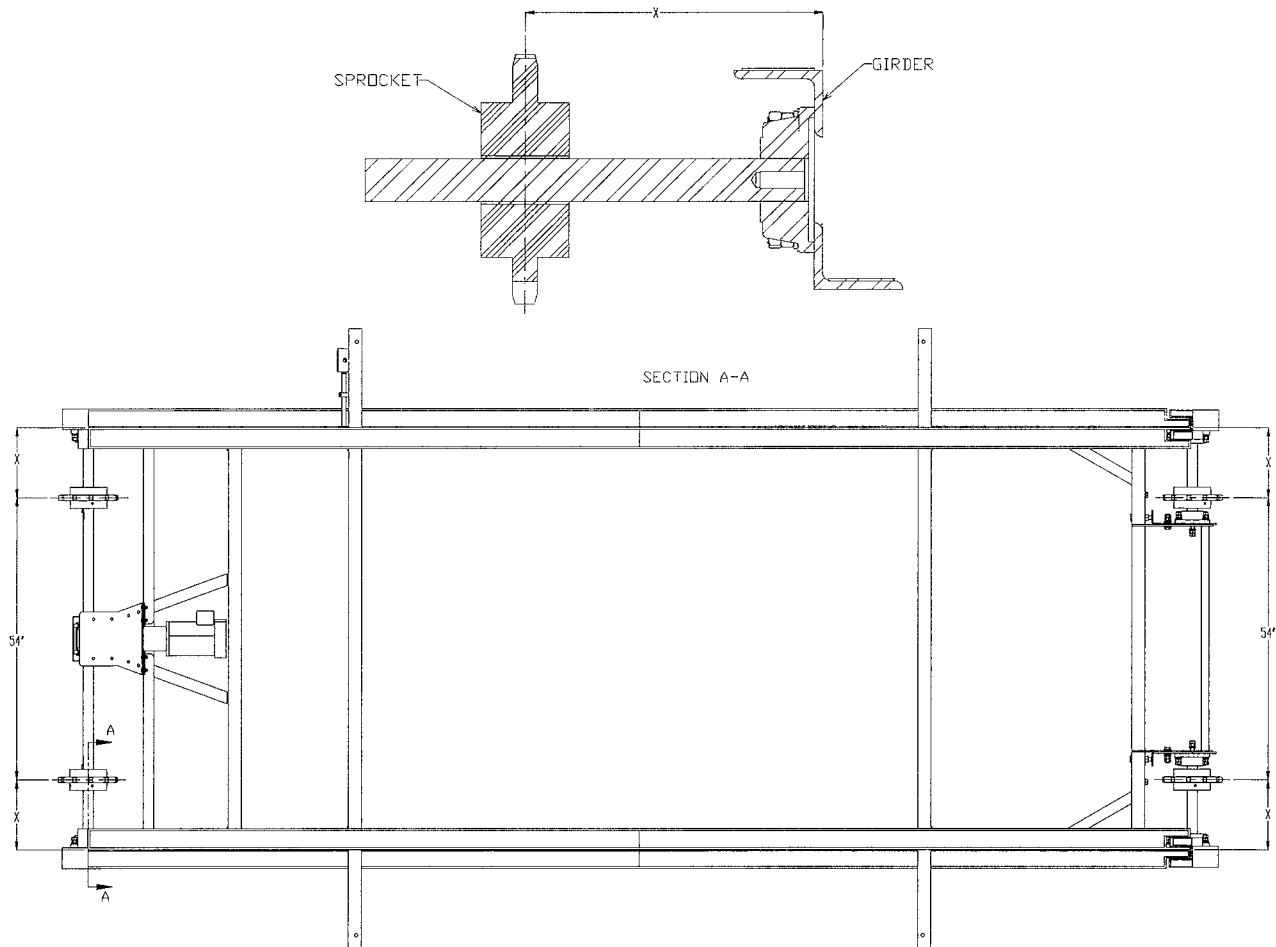

Figure 3-21 Sprocket Measurement
Confirm the drive shaft and idler shaft sprockets the same distance from the girders on each side. Refer to Figure 3-21. Place a level on the shaft to assure it is level. Adjust the sprockets as necessary.
The distance from center to center of the sprockets should be fifty-four (54) inches as shown in Figure 3-21. The sprockets and bushings are pre-assembled and tightened at the factory. Check when installing and after 10 hours of operation.
The electrical cable assembly can be routed to either side but should go to the side the control panel is located on. Refer to Figure 3-21.